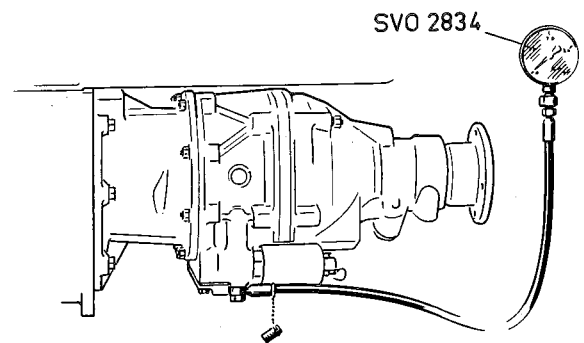

Fig. 4-40. Oil pressure check
1. Remove the plug under the operation valve and connect the pressure gauge 2834, see Fig. 4-40.